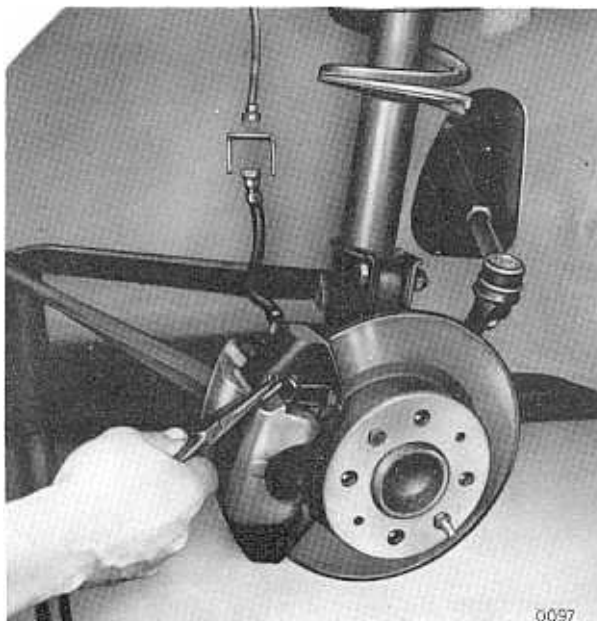

Fig. 09 2/15 Withdrawal of friction pads cotter
Note: removal of a rear carrier also requires the detachment of the hand-brake cable from the lever (ref. 2 in fig. 09 2/13) and disconnection of the fluid hose from the caliper instead of the underbody bracket. Overhaul of the carrier is described at para. 09 4 0800 & 1000